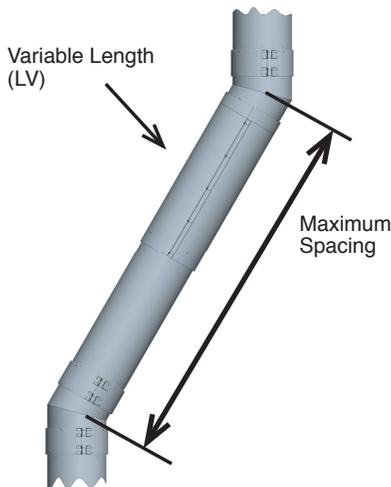

Figure 53: Maximum Spacing between supports for Offset
- 7- Height limits for supports are tabulated in SUPPORT METHODS AND HEIGHT LIMITS of these instructions (See **Figure 53**)